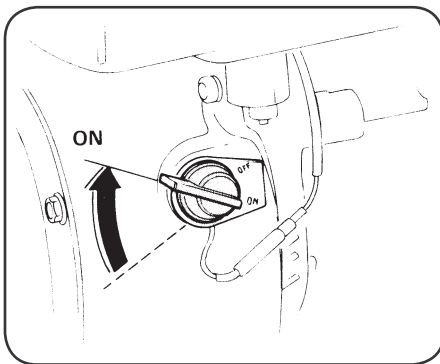

figure 8
- Turn the Engine switch to the ON position. (Fig. 8)